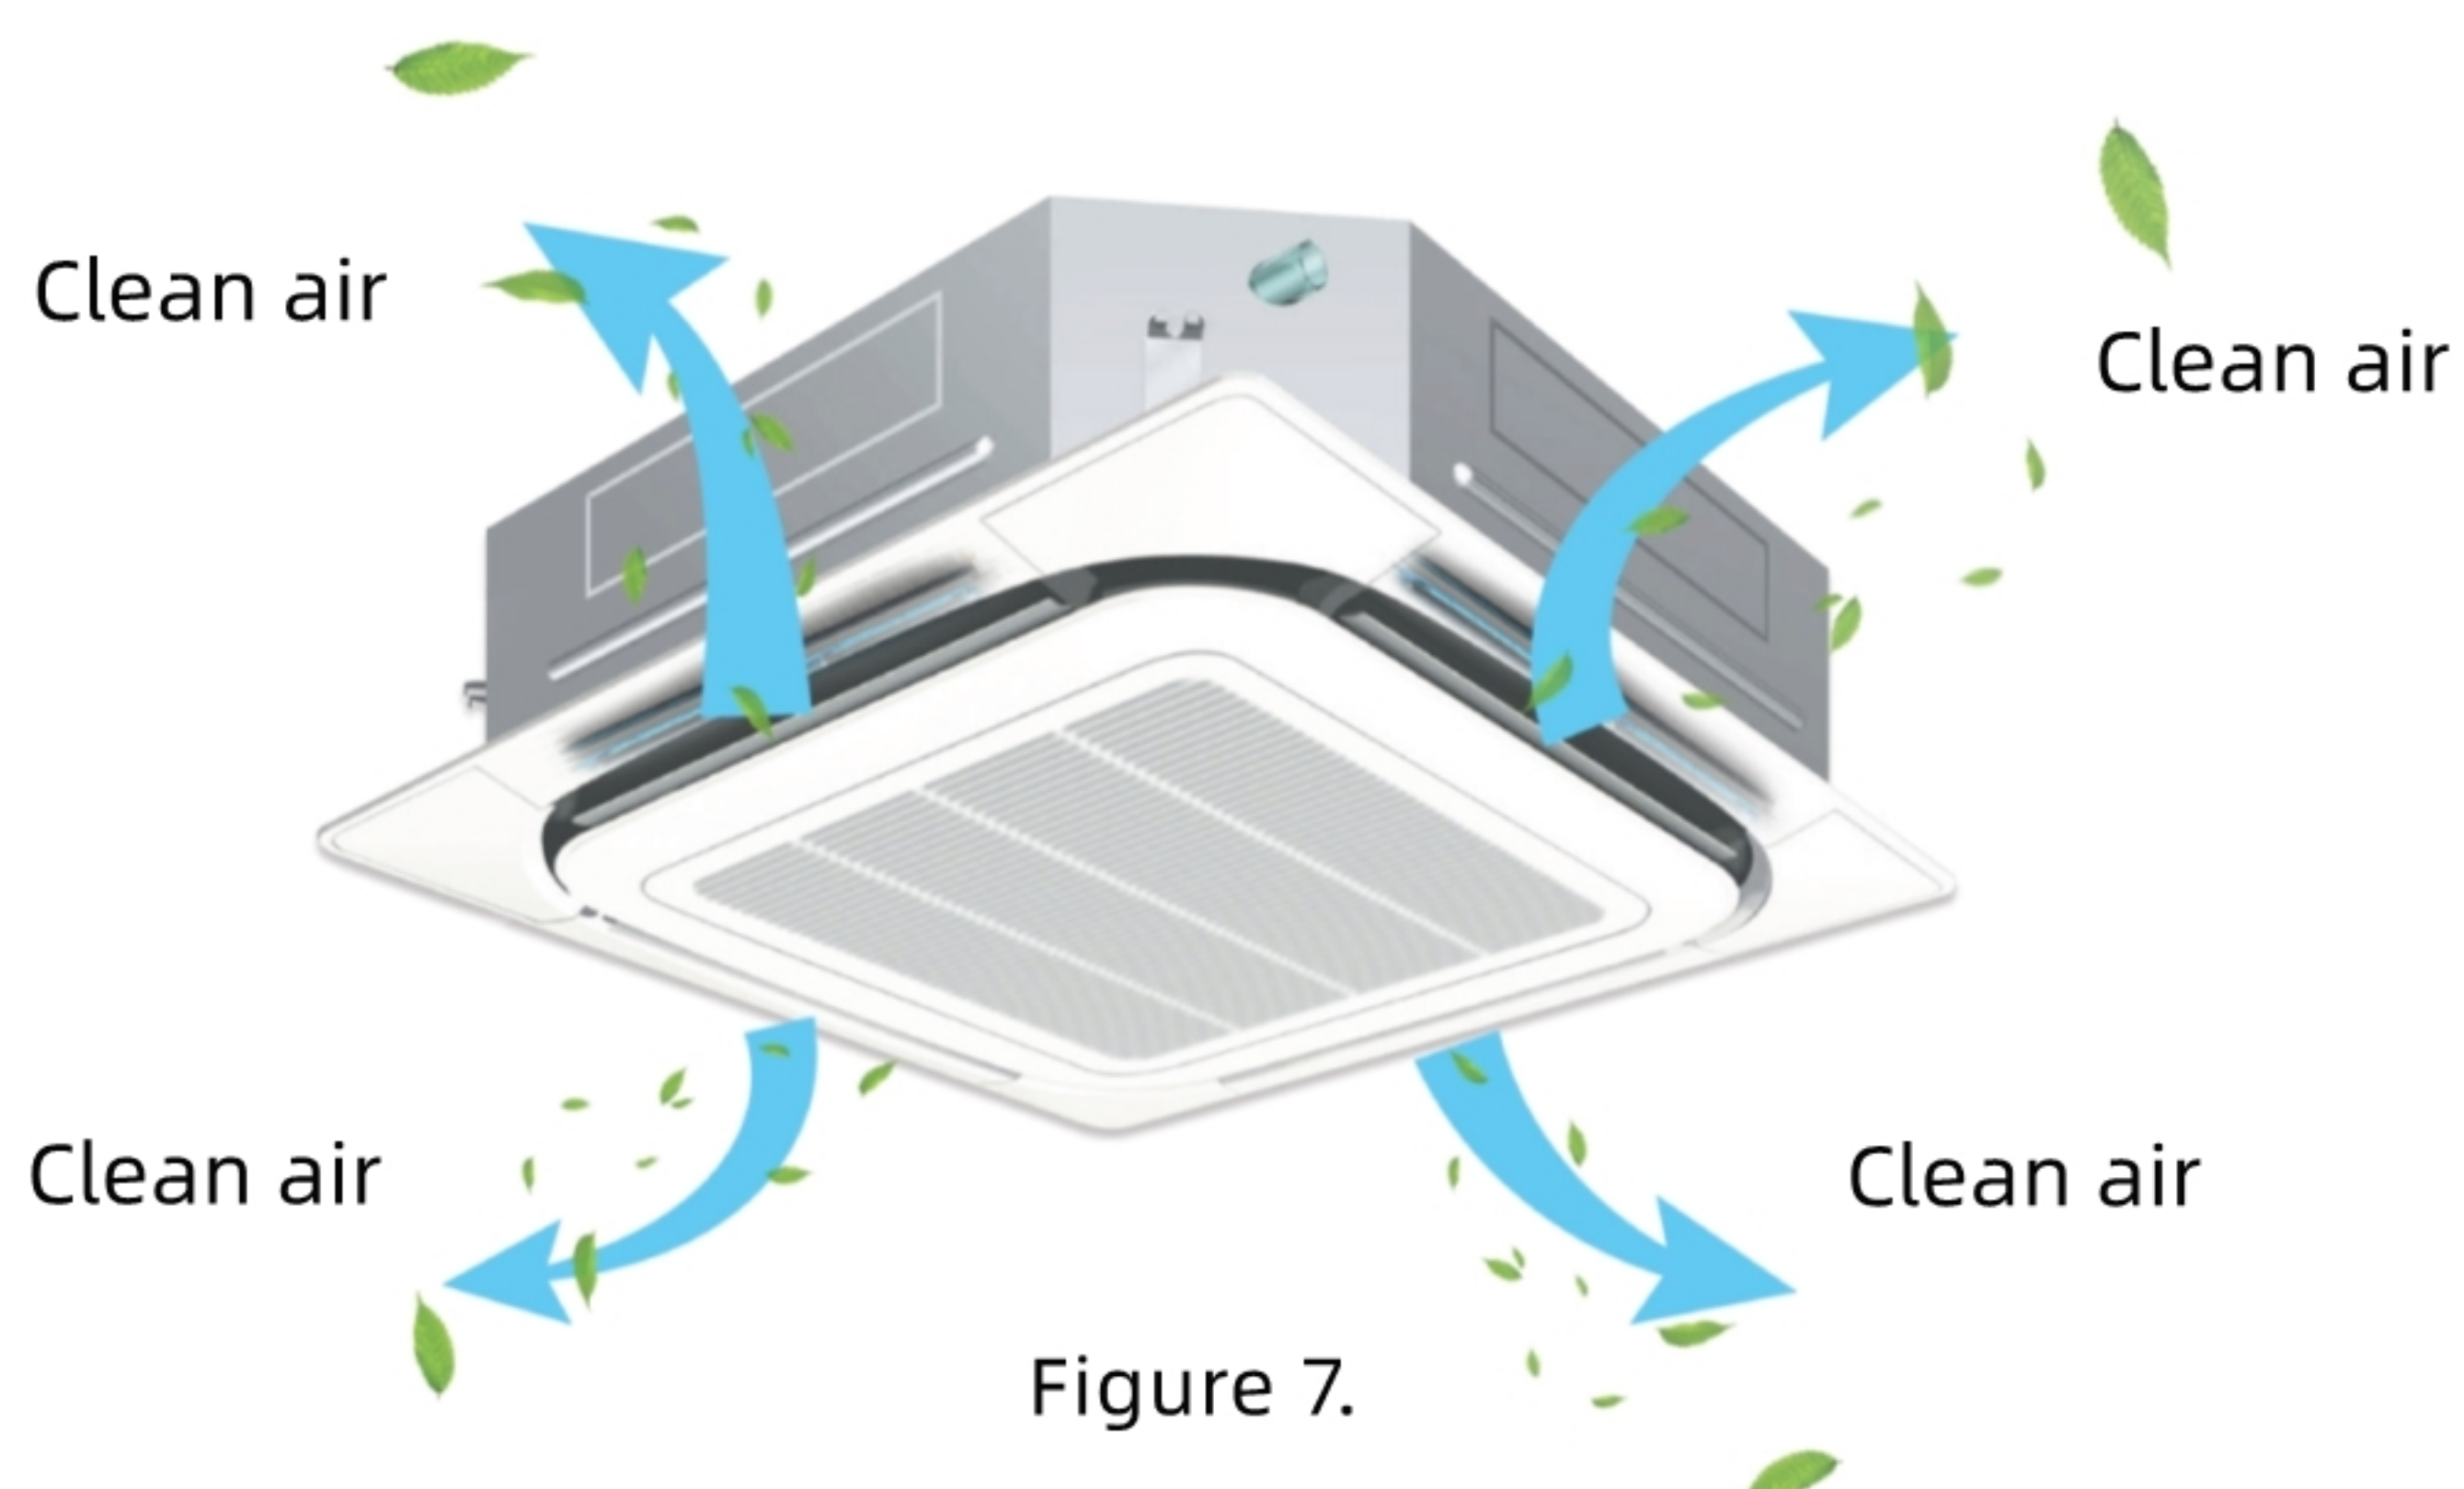

Figure 7.
- Plug in and turn on the air conditioner to confirm that the UV device is working.(Figure 7.)